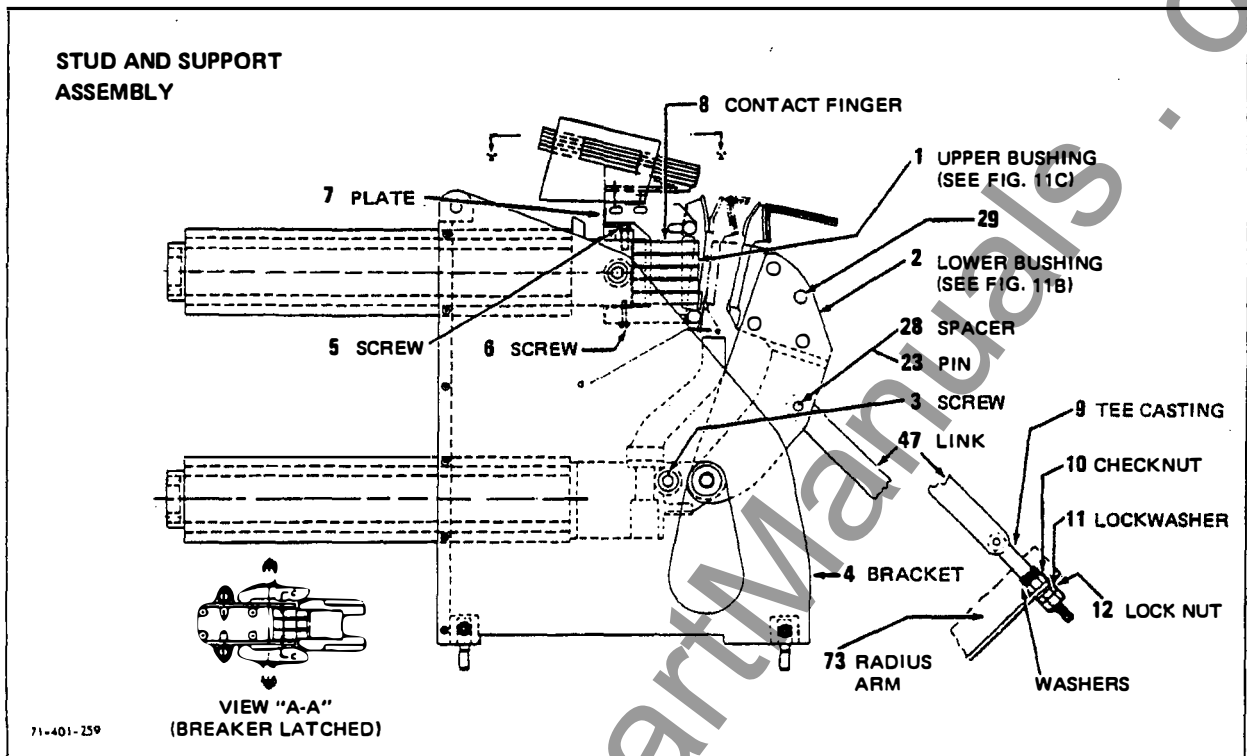

Figure 11A.
A comparison of circuit breaker timing at any period of maintenance with that taken when the breaker was new will indicate the operational condition of the breaker mechanism. A time variance of more than 1/2 cycle (8.3 ms) on opening and 2 cycles (33.3 ms) on closing indicates a maladjustment or friction buildup. A speed analyzer may be connected to the movable contact arm by removing one button head socket screw in the movable contact arm (Item 29, Figure 11A).
The procedures which follow are to be used if it becomes necessary to change contacts, adjust penetration, or restore contact alignment (refer to Figures 11A, 11B and 11C).
1. The check for proper contact alignment and penetration can be made at the same time by measuring dimensions "C", view "A-A", Figure 11A.
2. Using power closing procedures, close and latch breaker. The main contacts will have spread apart leaving gaps between the stationary main fingers (8, Figure 11A) and plates (7). Penetration is determined by measuring these gaps, dimensions "C", with feeler gages.
5. If the total of "C" dimensions are less than 0.090 inches (2.29 mm) penetration will require adjustment. This adjustment is made by lengthening or shortening link (47, Figure 11A). Adjust length of link (47) by removing or inserting washers between the base of "T" casting (9) and checknut (10). Use a 0.625 ID by 1.25 OD by 0.03 thick (15.9 ID by 31.800 by 0.8 mm thick) brass washer, Siemens-Allis part number 71-018-451-001. Adding washers will increase penetration, "C" dimensions will increase. The adjustment should proceed by adding or removing a single washer at a time. Make sure this adjustment brings
1. Each movable contact structure is to be checked separately for contact lead. Remove pin (23, Figure 11A) from each of three phases. This frees the individual phases for independent checks and adjustment. Raise each phase movable contact until the arcing contact just touches. Refer to Figure 11A and measure.
retain adjustment. Remove spacer, clamp and reconnect contact link (47, Figure 11A).